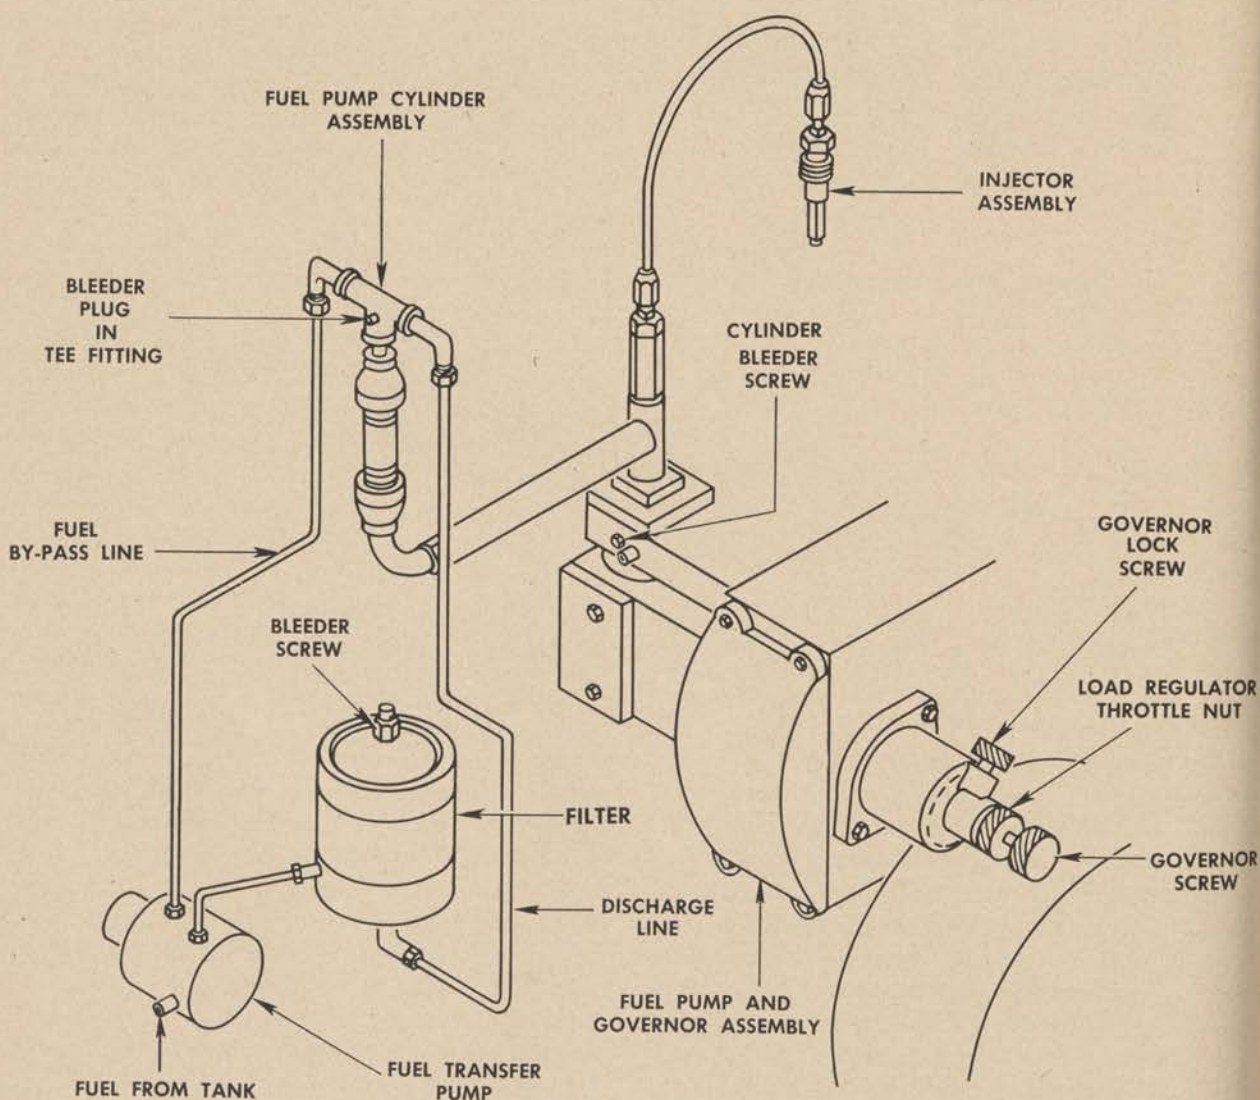

Figure 270. Auxiliary Diesel fuel system.
(7) *Fuel system (fig. 270).* (a) *Description.* The auxiliary Diesel fuel tank is located at the base of the engine. A filler cap is located in the base at the right side of the engine near the radiator, and is removable for filling the tank. Fuel is obtained by tapping the day fuel tank of the Caterpillar Diesel, as shown in figure 163. Use a funnel and pipe arrangement to fill the tank, since the clearance between the deck house wall and
filler plug is insufficient to permit direct filling. The engine fuel system employs a fuel transfer pump which draws fuel from the tank in the base of the engine and forces it through a filter. (See fig. 270.) The fuel suction lines from the filter send oil into the filter in the fuel pump cylinder. After quantity regulation by the governor, the fuel pump forces the fuel to the injector assembly where it is injected by the spray valve into the combustion chamber.
(h) *Priming fuel system (fig. 270).* Priming is necessary if the engine is permitted to run out of fuel and air enters the fuel system. In this case, fill the fuel tank and proceed as follows: Remove the drive belt from the fuel transfer pump and loosen the filter bleeder screw. (See fig. 270.) Rotate the pump in a clockwise direction by hand, until a steady stream of oil flows from the top of the filter. Replace the screw, rotate the transfer pump several additional revolutions, and replace the belt. Turn the throttle screw in almost fully, and loosen, with out removing, the fuel pump cylinder bleeder screw. (See fig. 270.)
(i) *Bleeding fuel injection pump.* Remove the $\frac{1}{8}$ -inch hollow pipe plug in the fuel pump suction tee fitting (fig. 270), allowing fuel to escape, until a solid stream of fuel, free of air bubbles, flows from the opening. Tighten plug.